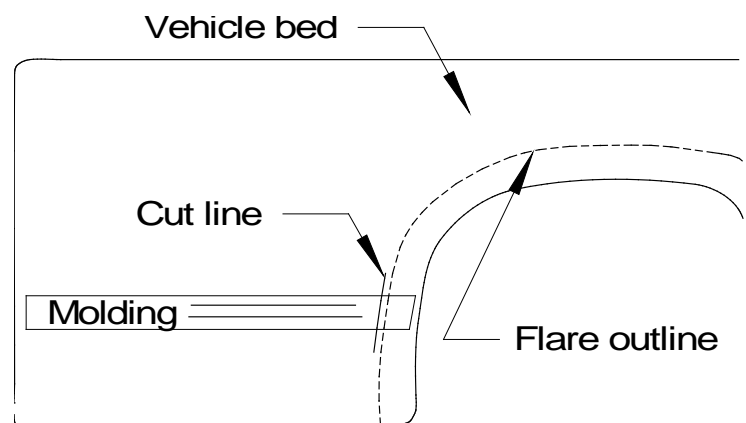

FIGURE 1
- d) Carefully cut on marked line with heavy duty scissors. **See FIGURE 1.**
- (A) The 28.5' roll of edge trim that is included with each kit needs to be cut to the following lengths: two 70" pieces for the front flares, and two 101" pieces for the rear flares.
- (B) Peel two to three inches of red vinyl backing away from edge trim tape. Applying the adhesive side of the edge trim to the inner side of the flare, affix the edge trim to the top edge of the flare (the portion that comes in contact with the side of the vehicle).
- (C) Press edge trim into place along the top edge of the flare in one-foot increments, pulling red vinyl backing free as you continue to work your way around the top edge of the flare.